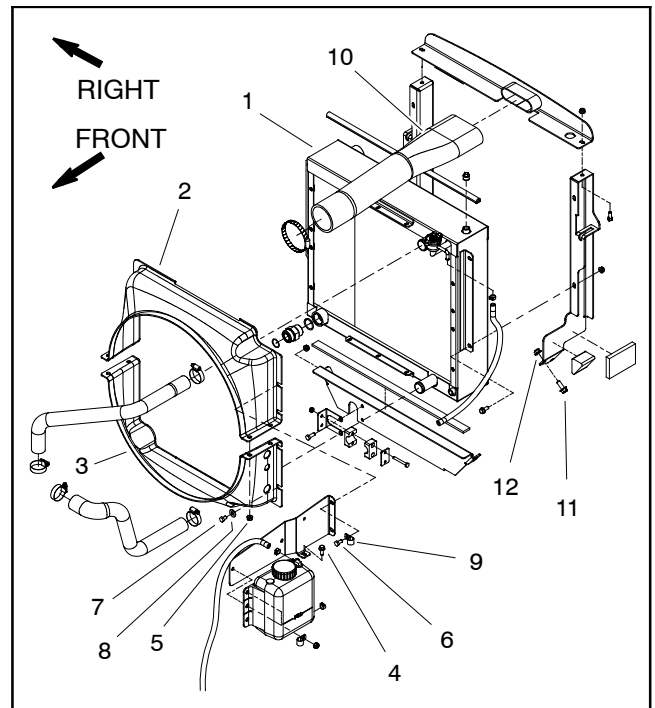

Figure 87
4. Thoroughly clean three (3) hydraulic tubes at lower radiator shroud. Disconnect hydraulic tubes and put caps or plugs on tubes to prevent contamination. Label disconnected hydraulic tubes for proper installation.
5. Remove air cleaner inlet hose and radiator shrouds (upper and lower) to allow easier access to hydraulic fan motor (Fig. 87).
6. Remove flange head screws and flange nuts that secure radiator supports to frame (items 11 and 12 in Fig. 87). This will allow radiator assembly to be moved slightly to ease removal of cooling fan motor and bracket assembly.
7. Remove four (4) cap screws (item 11) and washers used to secure fan to fan hub. Remove fan.
5. Carefully position fan motor and bracket assembly to radiator and secure with six (6) cap screws and flange nuts.
6. Secure radiator assembly to frame with removed fasteners (Fig. 87).
7. Connect three (3) hydraulic tubes to cooling fan motor (see Hydraulic Hose and Tube Installation in the General Information section of this chapter).
8. Position fan to fan hub and secure with four (4) cap screws and washers. Torque screws from **12 to 14 ft-lb (17 to 18 N-m)**.
9. Install radiator shrouds (lower and upper) and air cleaner hose (Fig. 87). Make sure that clearance between shrouds and cooling fan is at least 0.180" (4.6 mm) at all points.
10. Connect three (3) hydraulic tubes at lower radiator shroud (see Hydraulic Hose and Tube Installation in the General Information section of this chapter).